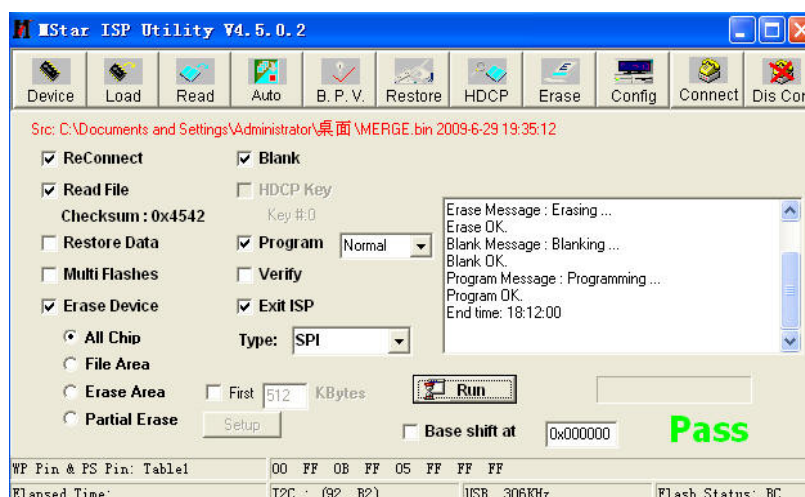

Fig. 6 A prompt “**Pass**” beside the key “**Run**” for successful burning
7) A prompt “**Pass**” will be displayed beside the key “**Run**” for successful burning as **Fig. 6**